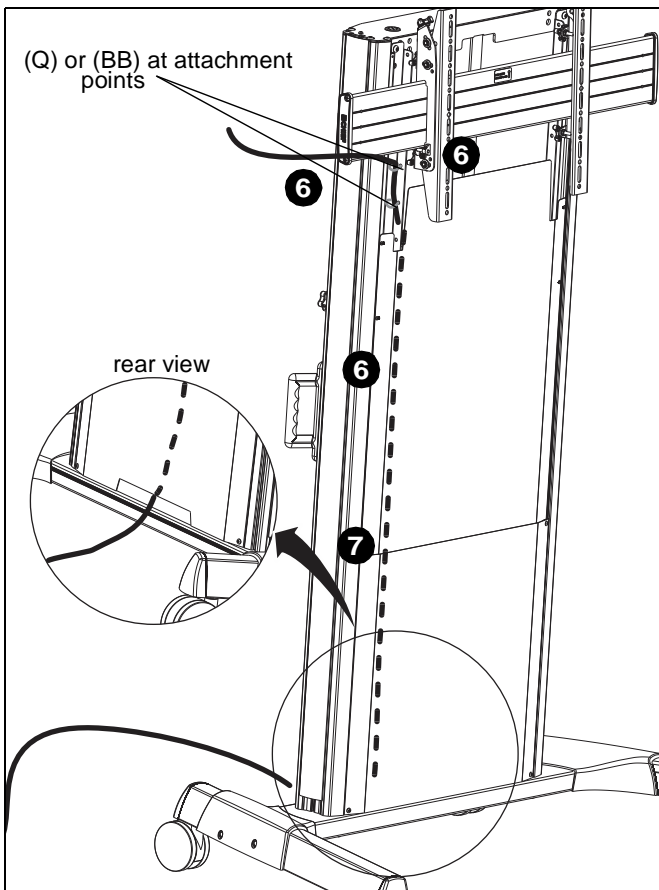

Figure 16
6. Route cables from display through inside of column assembly attaching at cable management attachment points and/or accessory bracket using cable ties (Q) or cable clips (BB) as desired. (See Figure 16)
7. Route cables out through the slot on the back of the cart. (See Figure 16)